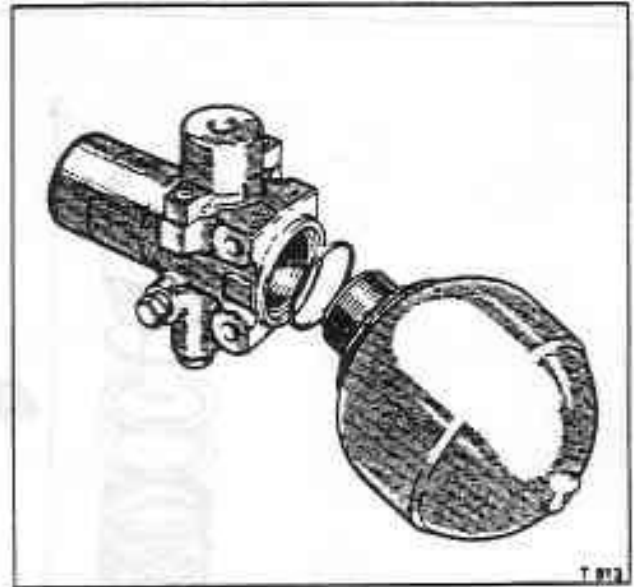

Fig. G7-3 Hydraulic accumulator with sphere removed
2. Carefully hold the valve housing in a vice. Using a suitable strap spanner located around the circumference of the sphere, unscrew and remove the sphere from the valve housing. Discard the sealing ring (see fig. G7-3).
3. Remove the setscrew securing the connection valve retaining plate (see item 3). Remove the plate and valve ball.
4. Remove the bleed screw and ball (see item 1). Remove and discard the 'O' ring from the bleed screw.
5. Position the valve housing onto a press and depress the spring retaining plug (see item 2) sufficiently to allow the snap ring to be removed.
7. Remove the connection valve (see item 3). The valve can only be removed from the sphere end of the housing.
8. Position the housing onto a press with the cut-out spring housing (see item 4) located under the spindle. Apply sufficient pressure to retain the housing when the retaining screws are removed.
2. Carefully hold the valve body of the No. 1 system whilst in position. Using a suitable chain wrench located around the circumference of the sphere, unscrew and remove the sphere from the valve housing. Discard the sealing ring (see fig. G7-3).
3. Carefully hold the valve body of the accumulator removed from No. 2 system in a vice. Using a suitable chain wrench located around the circumference of the sphere, unscrew and remove the sphere. Discard the sealing ring (see fig. G7-3).